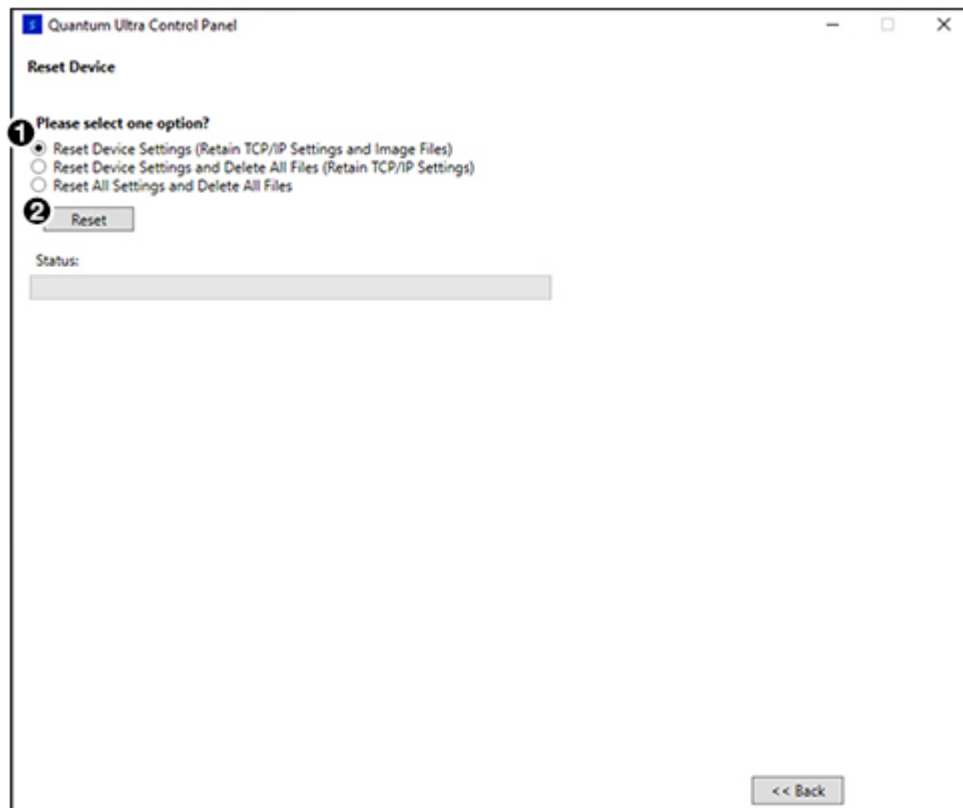

Figure 61. Reset Device Window
To reset the Quantum Ultra unit (see figure 61):
2. On the **Reset Device** window, select the radio button for the type of reset desired (see figure 61, ② on the previous page):
3. Click the **Reset** button (see figure 61, ① on the previous page). The following prompt appears: